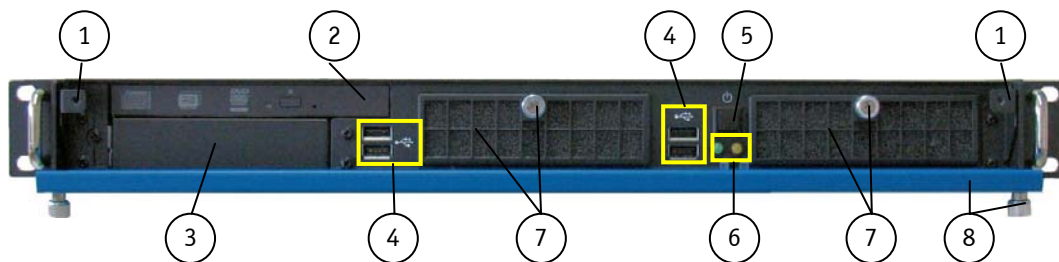

Fig. 8: Front side (rackmount version) with opened front access door
The filter mat holders (Fig. 8, pos. 7) are located behind the air grilles of the front access door inserted into the air filter holder. The filter mat protects your system against dust and dirt. It can be changed while the system is powered up (refer to the section 10.3 "Cleaning the Filter Mat").
Depending on the configuration ordered, your KISS 1U Short can be equipped with up to two externally accessible drives: **D1** (1x 5.25" Slim-line drive bay) and **D2** (1x 3.5" drive bay) (refer to Fig. 8, pos. 2 and pos. 3).